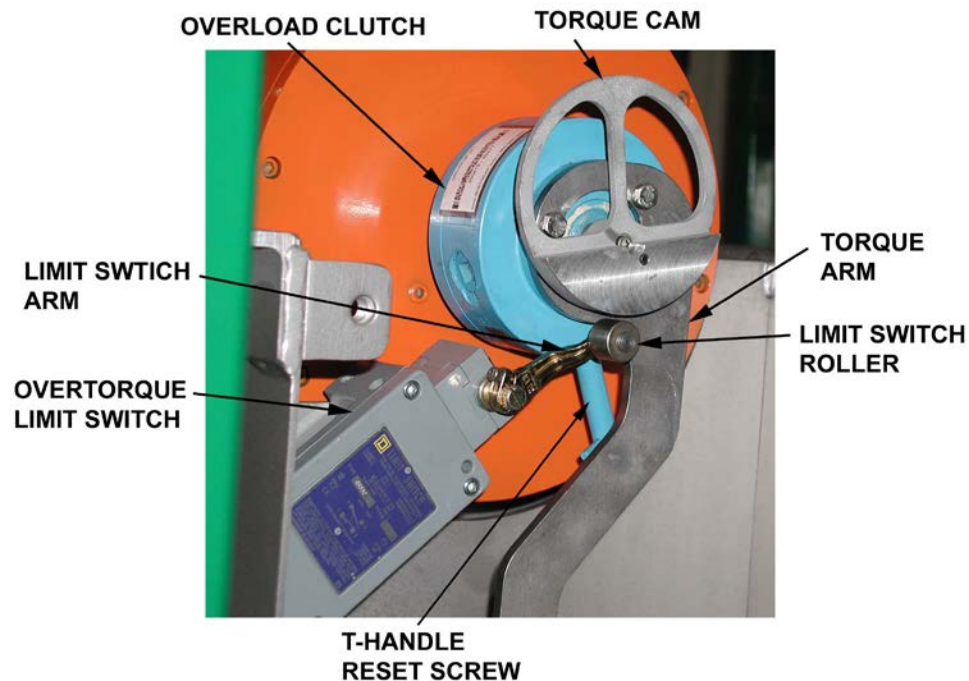

Figure 4-3 Overload Release Clutch Components
- b. Turn T-handle reset screw (Figure 4-3) clockwise (inward) approximately 2-1/2 turns until a click is heard, indicating that the clutch is reset.